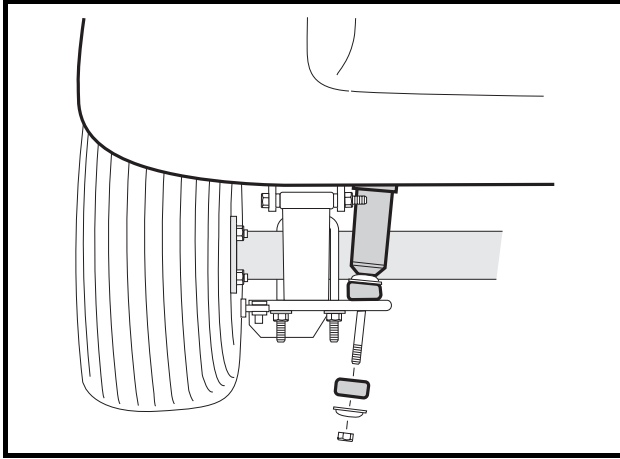

Figure 17-5 Shock Absorbers
3. Remove the lower shock mounting hardware from both rear shocks (**Figure 17-5, Page 17-5**).